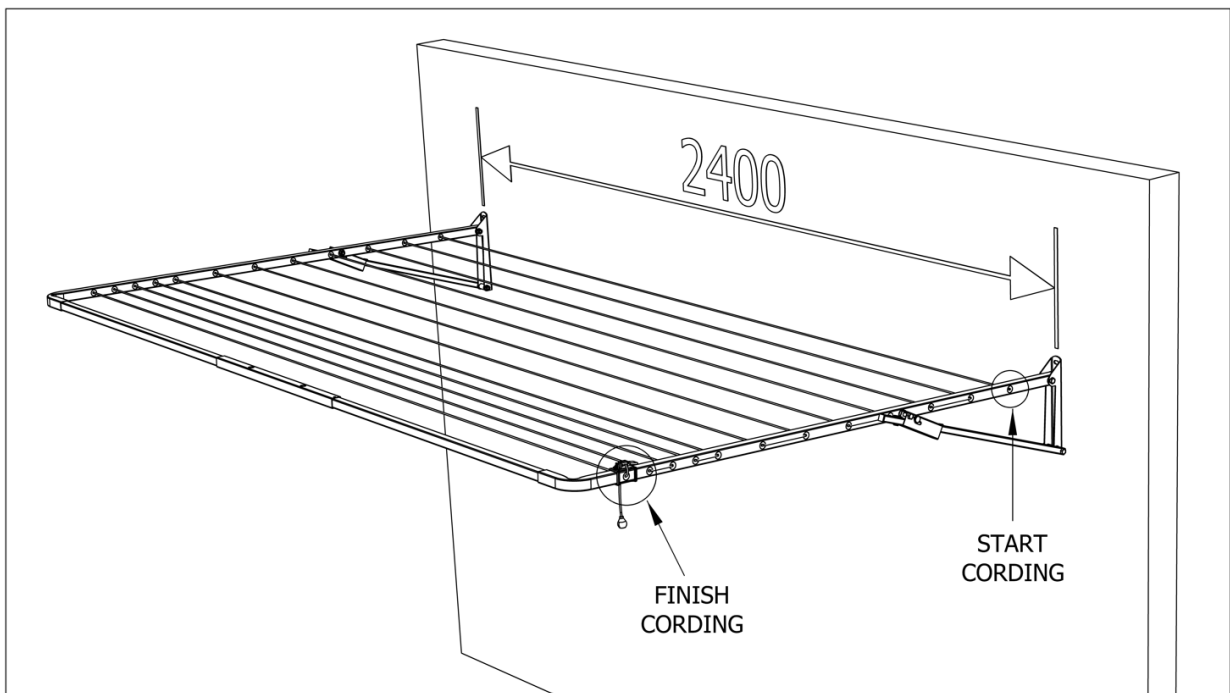

Fig 1. Standard 28 installed to wall / Cord start stop positions.
7. Start cording at the rear right-hand hole, tie a knot in the cord to stop it pulling through. (Fig.1)
8. Working across and toward the front of the clothesline finish at the Line Tension Lock (L.T.L.) front right. (Fig.1)